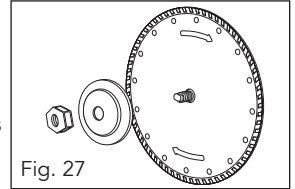

Fig. 27
4. Remove the outer flange and cutting disc (2) (Fig. 27).